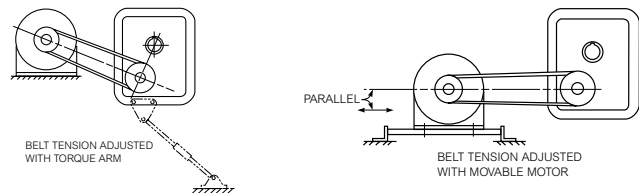

Figure 3
- JR** — When the torque arm turnbuckle is used for belt tension adjustment, position the motor so that the belt pull will be about 90° to a line through the drive high-speed shaft and hollow shaft as shown in Figure 3. For drives where the motor is moved to adjust belt tension, mount the motor slide base so that the belt tension adjustment is approximately parallel to the belt centers. Refer to complete guide for instructions relative to alignment of sheaves and belts.